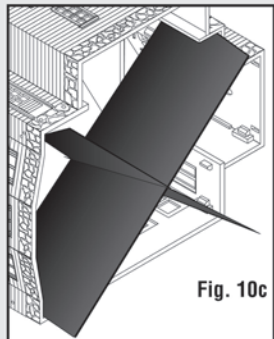

Fig. 10c
- Insert strips into building (Fig. 10c).